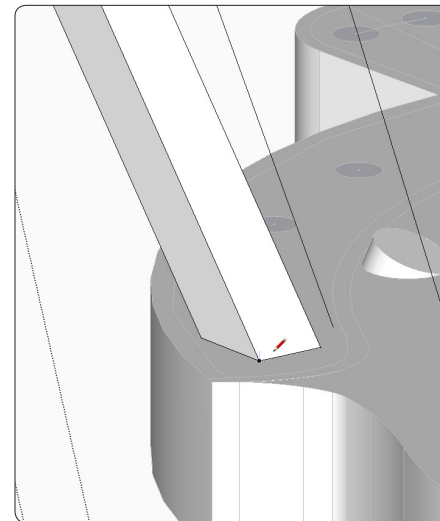
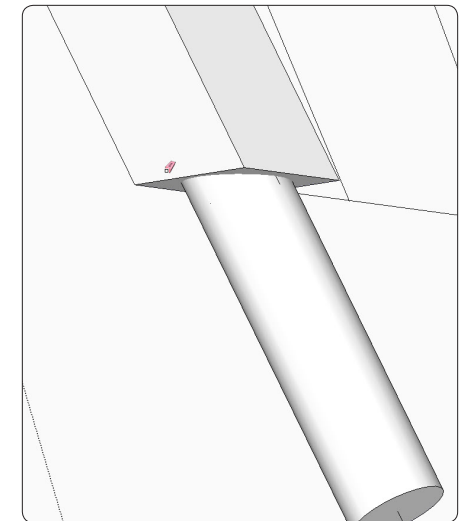

Figure 54. Draw lines where the bow intersects the seat, so you can trim the shoulder of the tenon at the proper angle.
Figure 55. The angled shoulder, after the waste has been removed at the base of the tenon.
Step 22 The end of the square section of the bow at the base of the tenon is not trimmed to be flush with the seat. To fix that, open the bow for editing, then select the Line Tool. Draw lines around the bow where it intersects with the top face of the seat, as shown in Figure 54. Make a copy of the bow and move it away from the assembly. Clear out the waste wedge shape. Now the bow will sit flush to the seat (Figure 55).